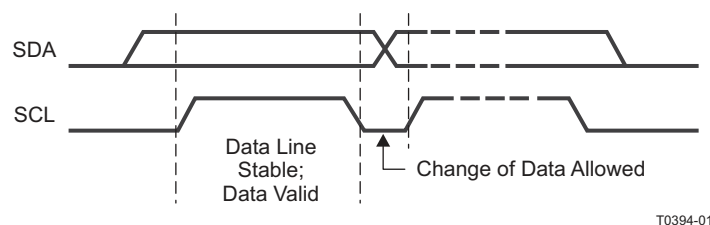
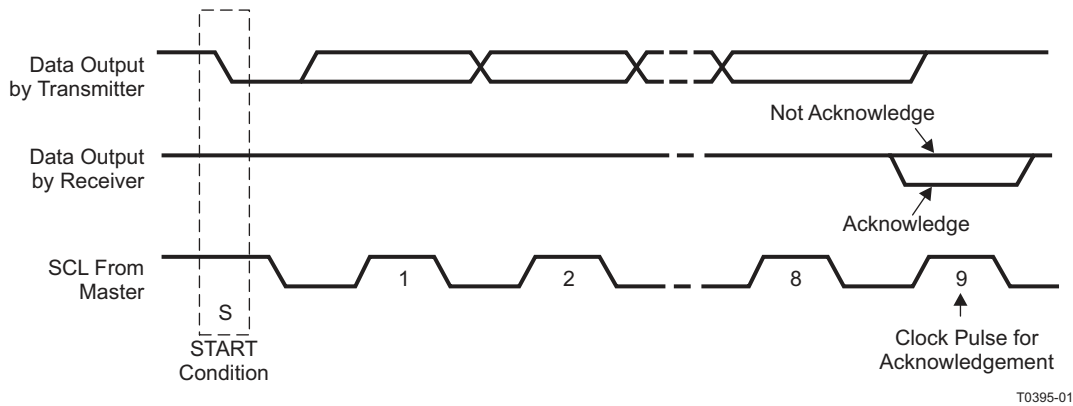

Figure 49. I²C Bit Transfer
Figure 50. I²C Acknowledge
- The master then generates the SCL pulses and transmits the 7-bit address and the *read/write direction bit* R/W on the SDA line. During all transmissions, the master ensures that data is *valid*. A *valid data condition* requires the SDA line to be stable during the entire high period of the clock pulse (see Figure 49). All devices recognize the address sent by the master and compare it to their internal fixed addresses. Only the slave device with a matching address generates an *acknowledge* (see Figure 50) by driving the SDA line low during the entire high period of the ninth SCL cycle. On detecting this acknowledge, the master knows that a communication link with a slave has been established.